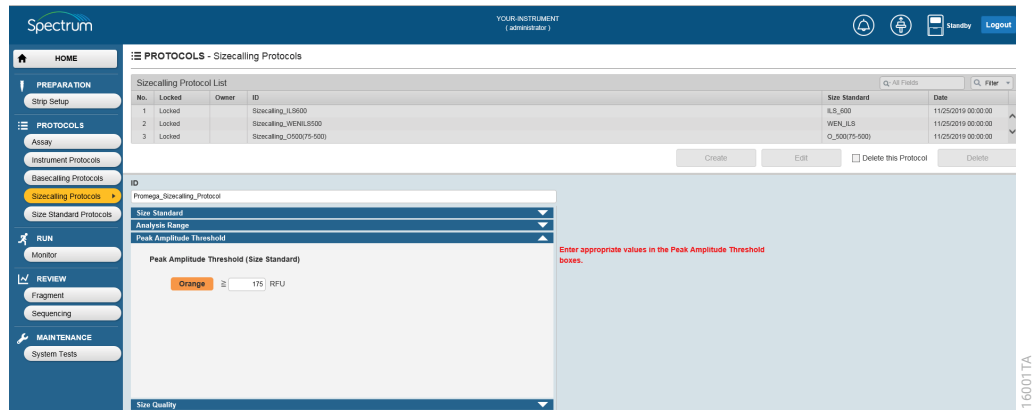

Figure 53. 'Peak Amplitude Threshold' pull-down screen.
5. Select the **Peak Amplitude Threshold** pull-down menu to reveal the options for setting peak amplitude thresholds (Figure 53). Enter a Peak Amplitude Threshold value for the dye channel that contains the size standard. A Peak Amplitude Threshold value must be set for the dye channel that contains the size standard in order for sizing quality (SQ) and electrophoresis quality (EQ) to be determined.